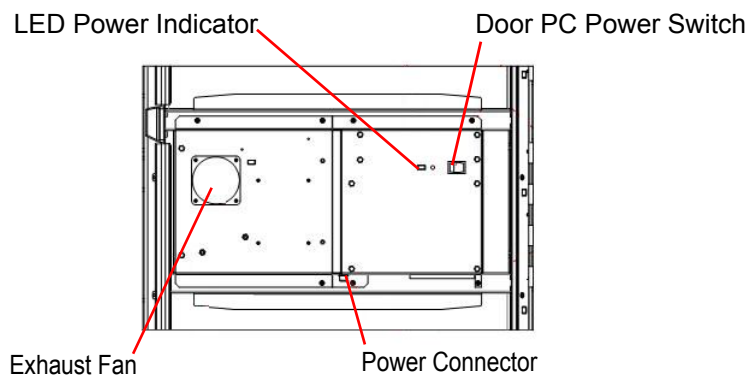

Figure 18 Door PC Rear View
2. Inside the back of the door is the power switch for the Door PC (see Figure 18).
1. Alternatively open the door and press and release the Door PC power switch (see Figure 18). The power switch does not latch in place.